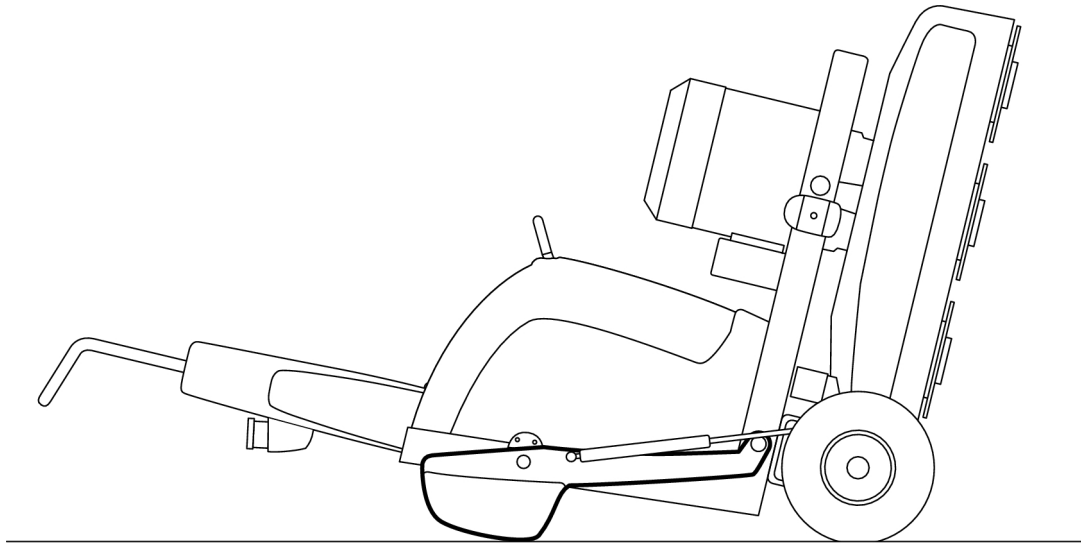

Figure 4-12. The machine rests on the floor
5. Lift the machine up as far as you can, lock the weight in its up position. Then lower the machine completely to the floor, see Figure 4-12, page 24.